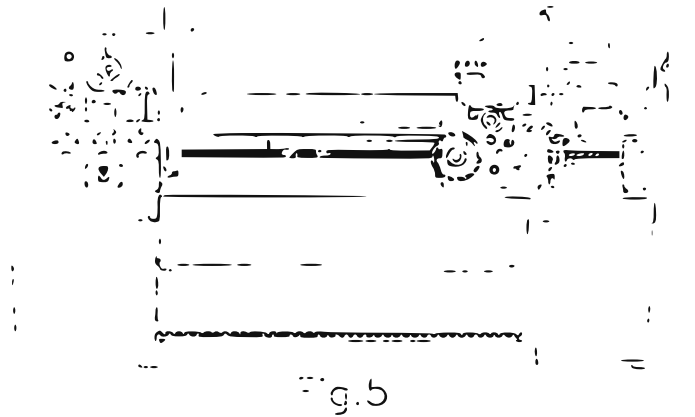

Figure 3-4: Levelling the bedways with a precision level
- 3 Place an engineer's precision level on the bedways as shown in Figure 3-4, and adjust the feet to level the machine.
- 5 Level the machine accurately as shown in Figure 3-4, then tighten the hold-down bolts.